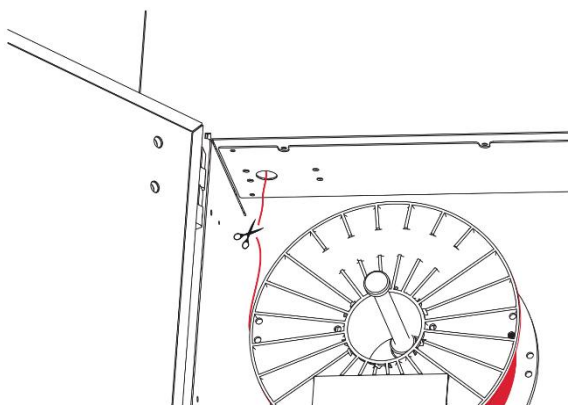

Fig. 58 Material cutting place
2. Cut the material about 5 cm in front of the input opening (fig. 58) and remove the spool from the holder. Remember to keep the filament in a dry place protected against direct sunlight.